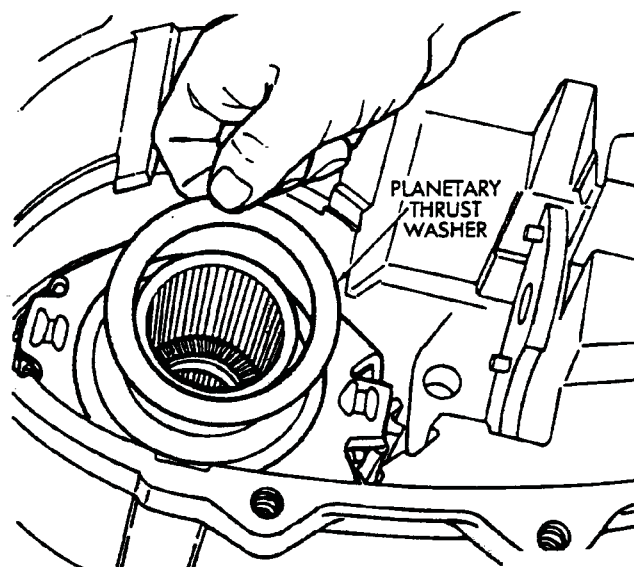

Fig. 4-41 Install Planetary Thrust Washer
29. Install the thrust washer on the planetary hub (Fig. 4-41).